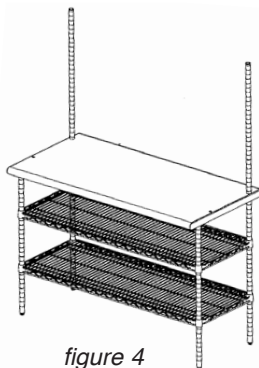

figure 4
- Lower the tabletop over the longer posts until the tabletop is seated snugly on the split sleeves. Refer to *figure 4*.